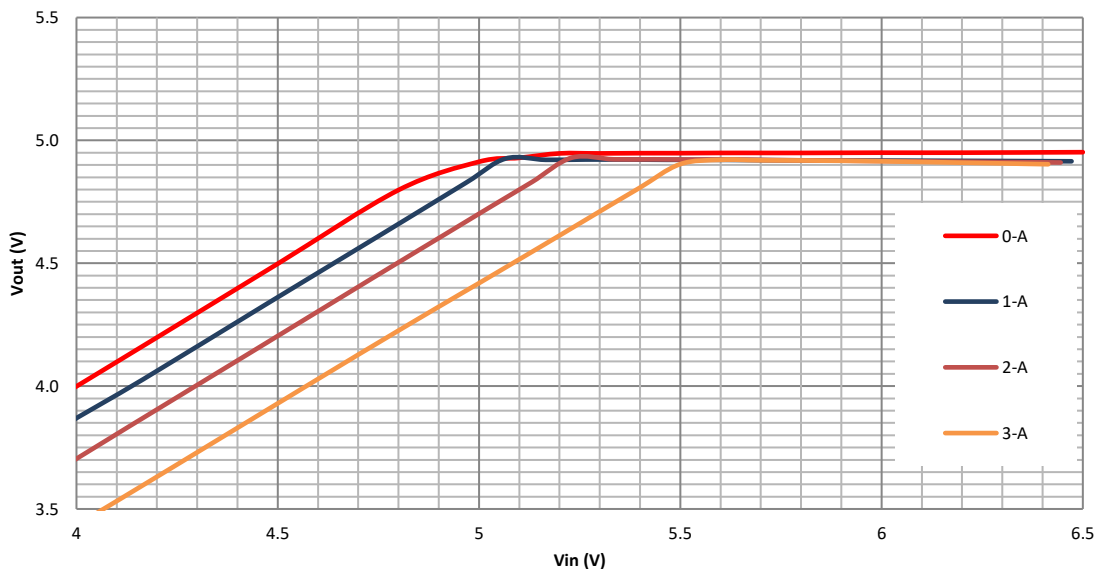

Figure 12. SCT9330 LDO Mode Waveform
An internal 1.5uA pull up current source connected from internal LDO power rail to EN pin guarantees that floating EN pin automatically enables the device. For the application requiring higher VIN UVLO voltage than the default setup, there is a 4uA hysteresis pull up current source on EN pin which configures the VIN UVLO voltage with an off-chip resistor divider R3 and R4, shown in Figure 12. The resistor divider R3 and R4 are calculated by equation (1) and (2).
MOSFET working normally. Then high-side MOSFET turns on and remains on until bootstrap voltage drops to trigger bootstrap UVLO again. Thus, the effective duty cycle of the switching regulator during Low Drop-out LDO operation can be very high even approaching 100% as shown in Figure 12.